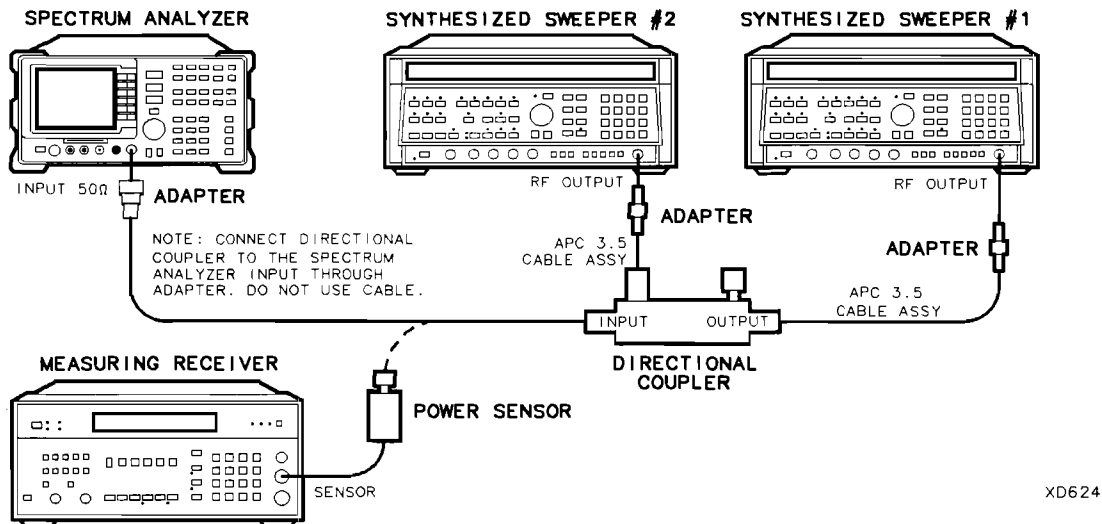

Figure 2-63. Gain Compression Test Setup
2. Connect the equipment as shown in Figure 2-63, with the output of the directional coupler connected to the power sensor.
28. Connect the equipment as shown in Figure 2-63.